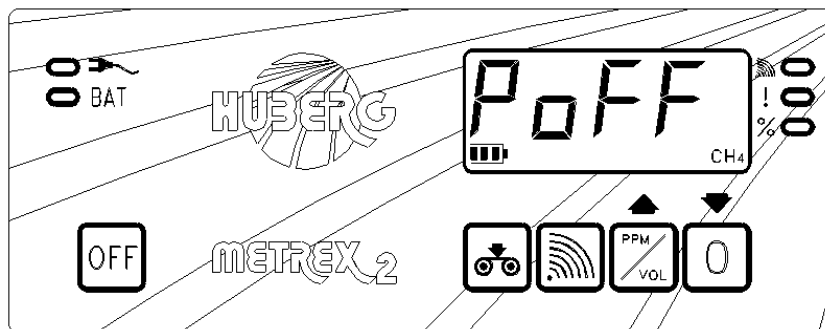

fig.28
METREX2 may be provided with an optional pump blocking features: in event of a continuous flux obstruction (for about 4 seconds), Metrex 2 stops measure and display shows "Poff" (fig.28). To restart the measure, any of the four keys under the display can be pressed (fig.1 keys (2), (3), (4),(5)).